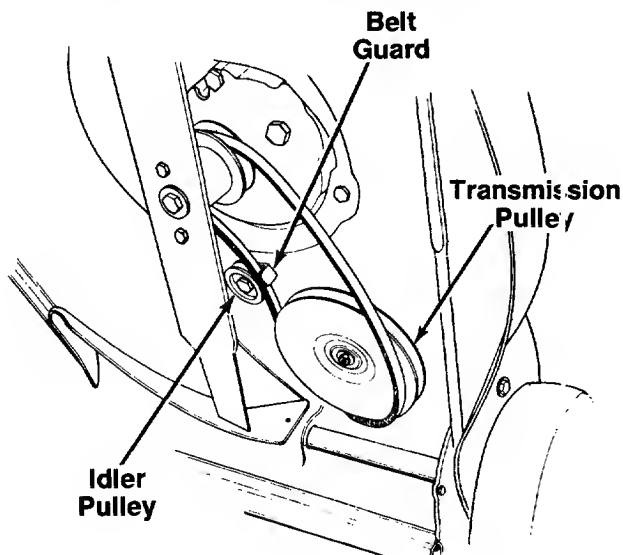

FIGURE 25.
5. Roll the belt off the transmission pulley. Remove the belt from between the idler pulley and belt guard. See figure 25.